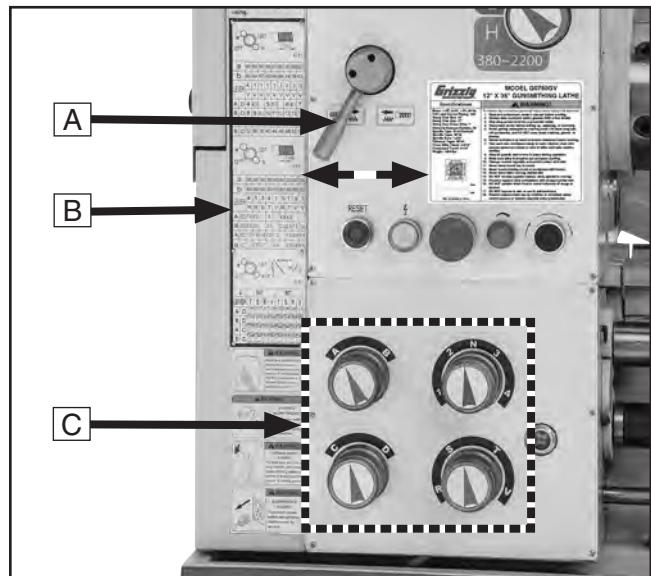

Figure 62. Power feed controls.
Use **Figures 62–63** and the following descriptions to understand the power feed controls.
- A. **Feed Direction Lever:** Selects the direction for power feed. When the lever is positioned as shown in **Figure 62**, the carriage will move along the bed toward the spindle, or the cross feed will travel toward the rear of the lathe.
The feed rate chart (see **Figure 62** on previous page for location) displays the settings for the headstock feed controls for feed rates.